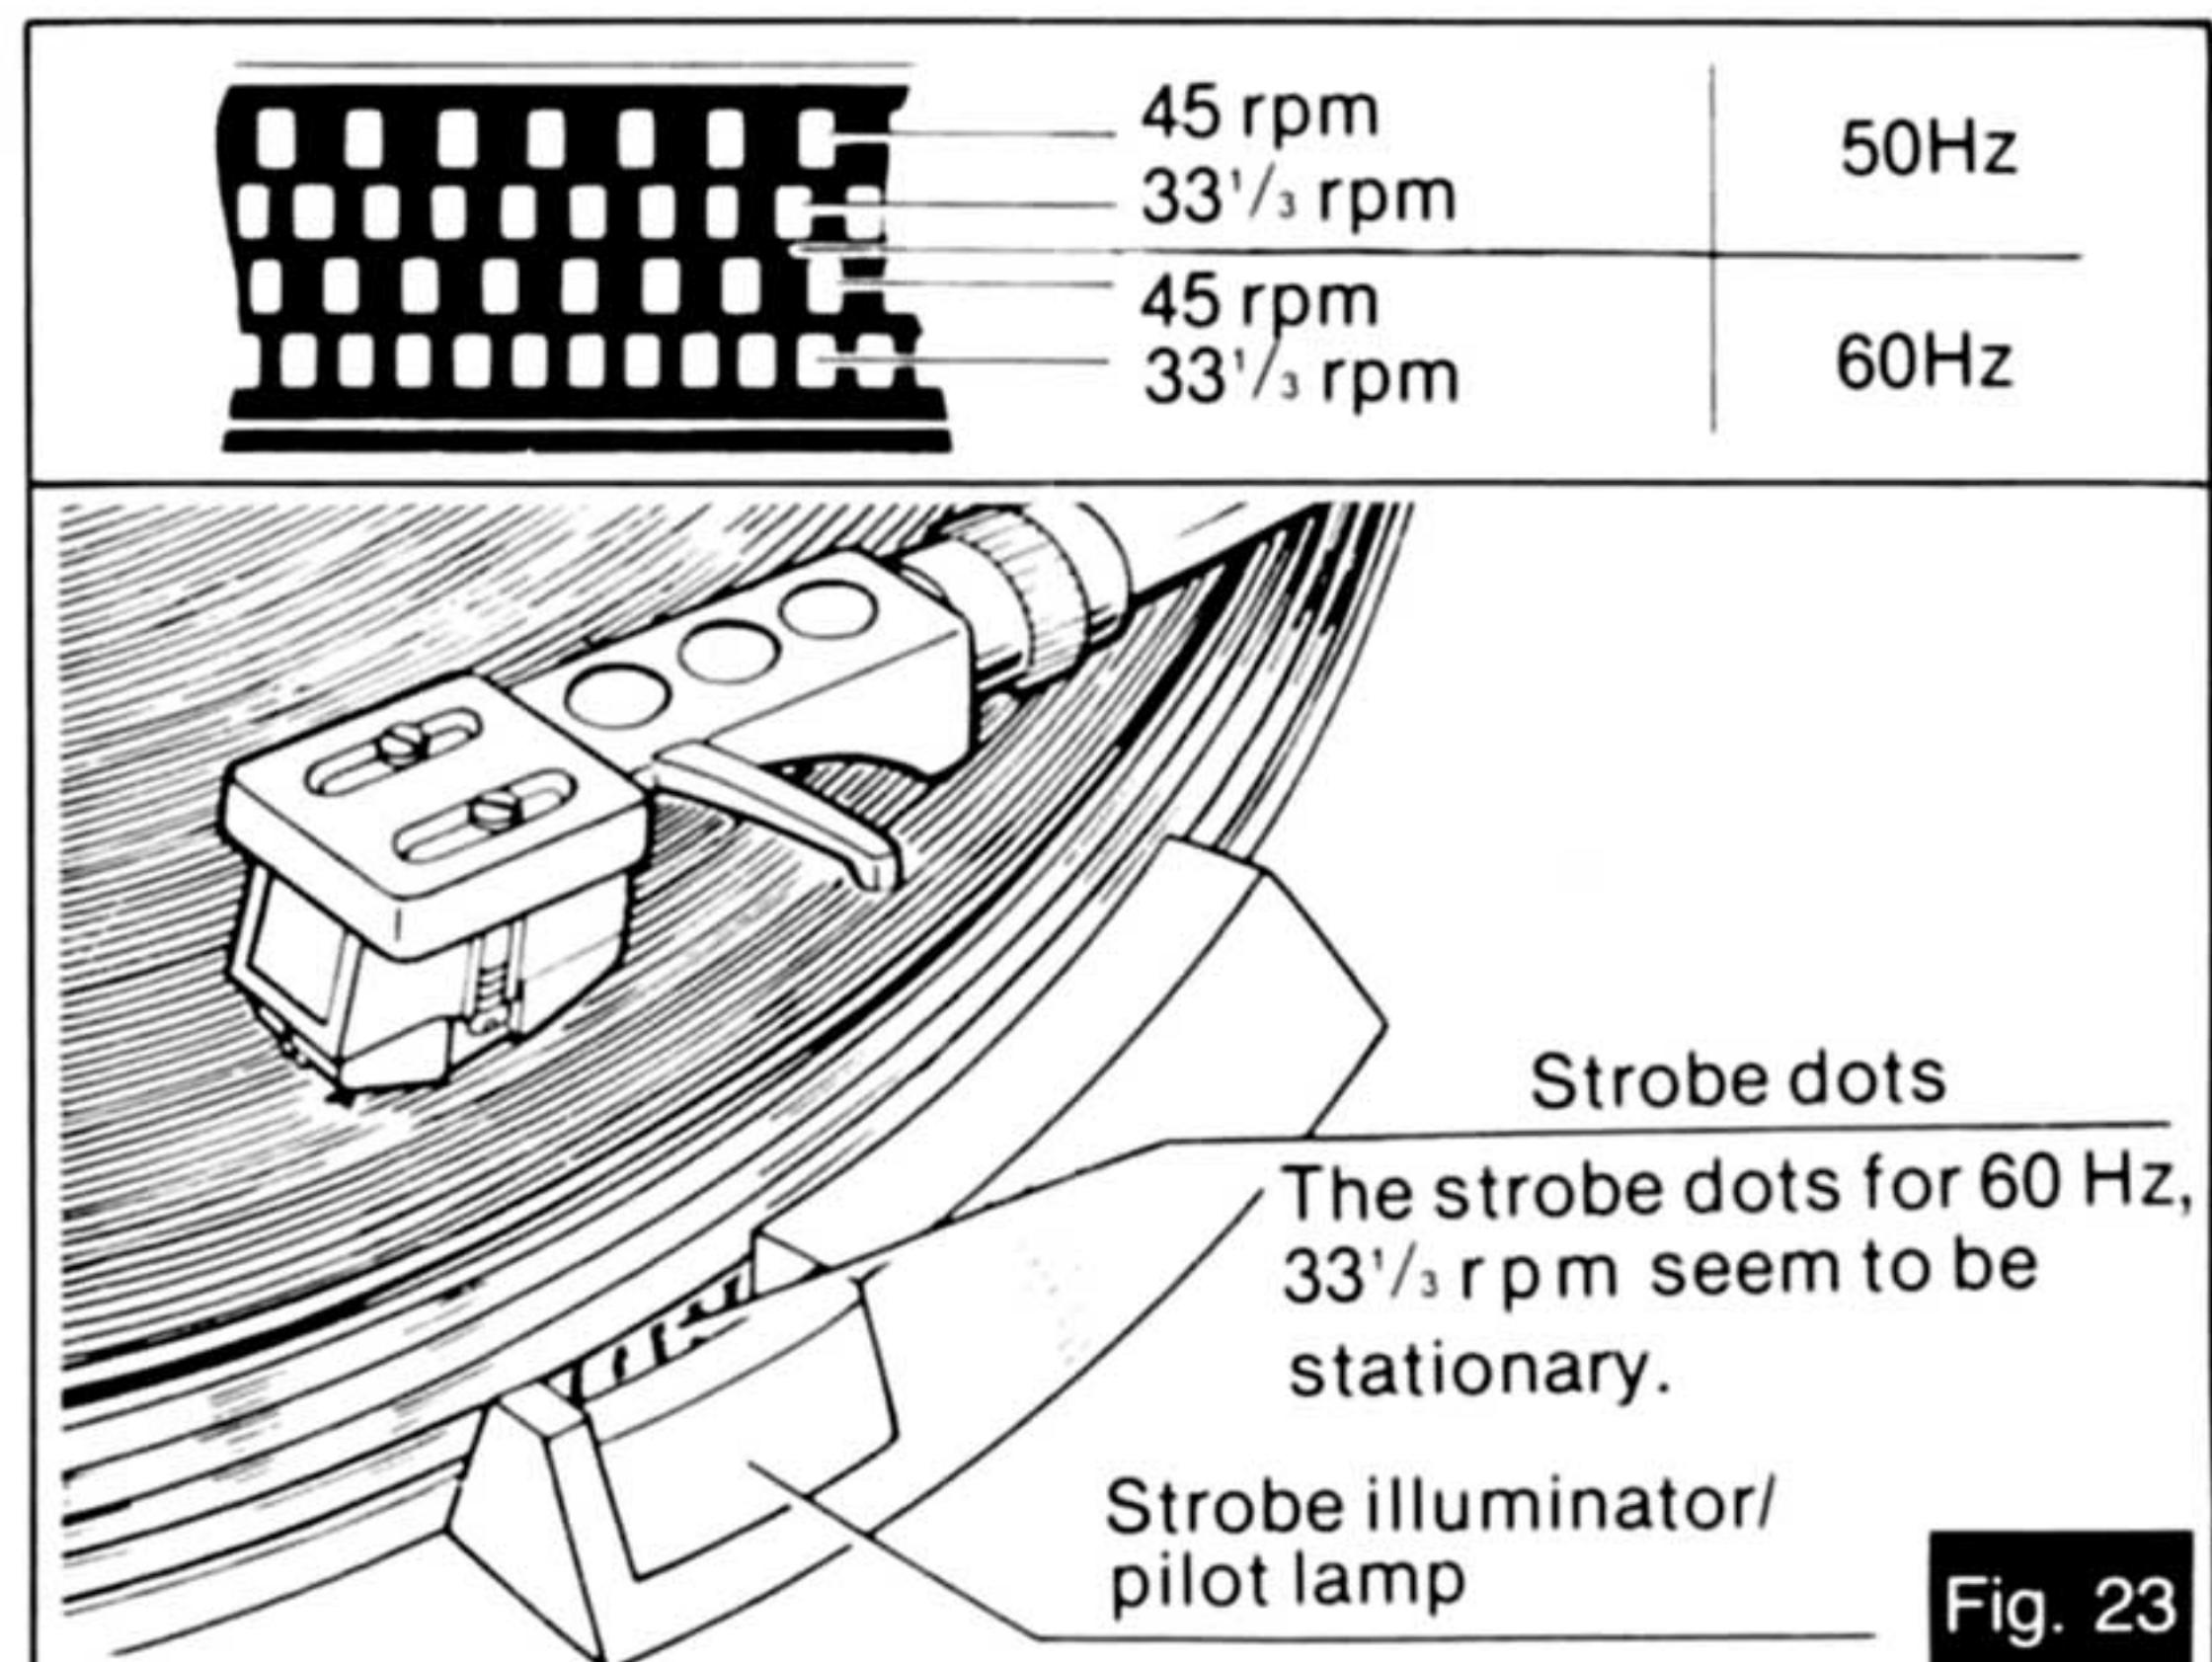

Fig. 23
② Speed adjustment (with pitch control knobs) (See Fig. 23.)
Strobe dots are set on the rim of the turntable platter according to the power-line frequency and the speed of the records. Make adjustment, referring to strobe-dot indication. (See Fig. 23.)